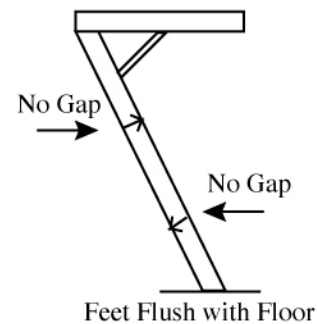
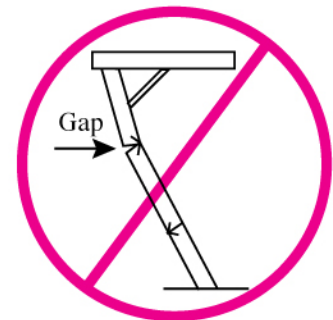

Fig. 2
Fig. 3
STEP 4: The foot supports supplied with your stair should be attached according to length required to allow the bottom of the stair to fit flush with the floor (Fig. 2). According to the measurements taken in STEP 3, the bottom section may or may not need to be cut. The foot supports will only extend the length of your stair by 3 inches. Be sure to cut accordingly.
STEP 6: Check to make sure the stairs fit flush with the floor and that all joints are tight with no gaps (Fig. 2). If the stairs are too long (Fig. 3), trim them again. If the stairs are too short (Fig. 4), do not use them. Contact your vendor or The Marwin Company.